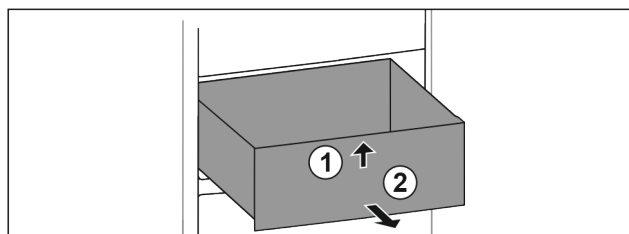

Fig. 66
- ▶ Lift up drawer at the front. Fig. 66 (1)
- ▶ Remove drawer to the front. Fig. 66 (2)